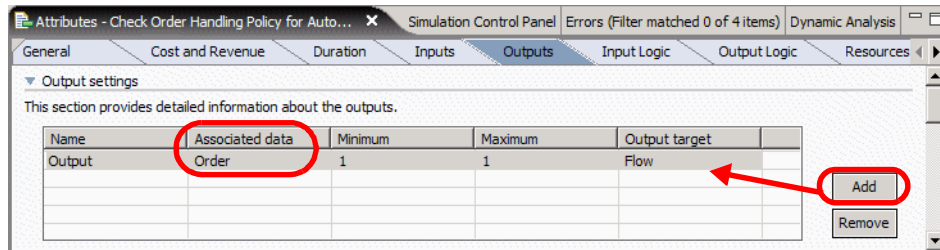

Figure 6-10 Define the output path business item
- ▶ Define the output path business item (Figure 6-10):